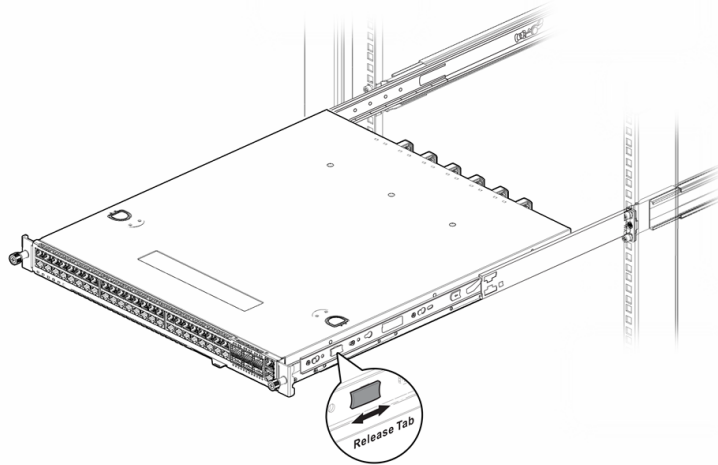

Figure 12: Pushing the Mounting Brackets into the Rail Assemblies
12. Release the tabs on both slider assemblies, and carefully push the switch back until it is firmly in place. See Figure 12.